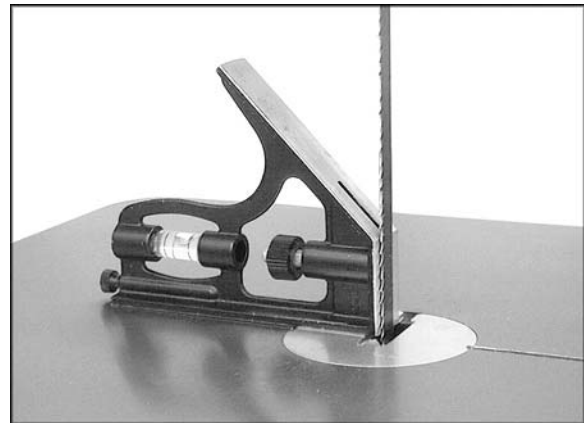

Figure 27
3. Use a square placed on the table and against the blade (Figure 27) to see if the table is 90 degrees to the blade.